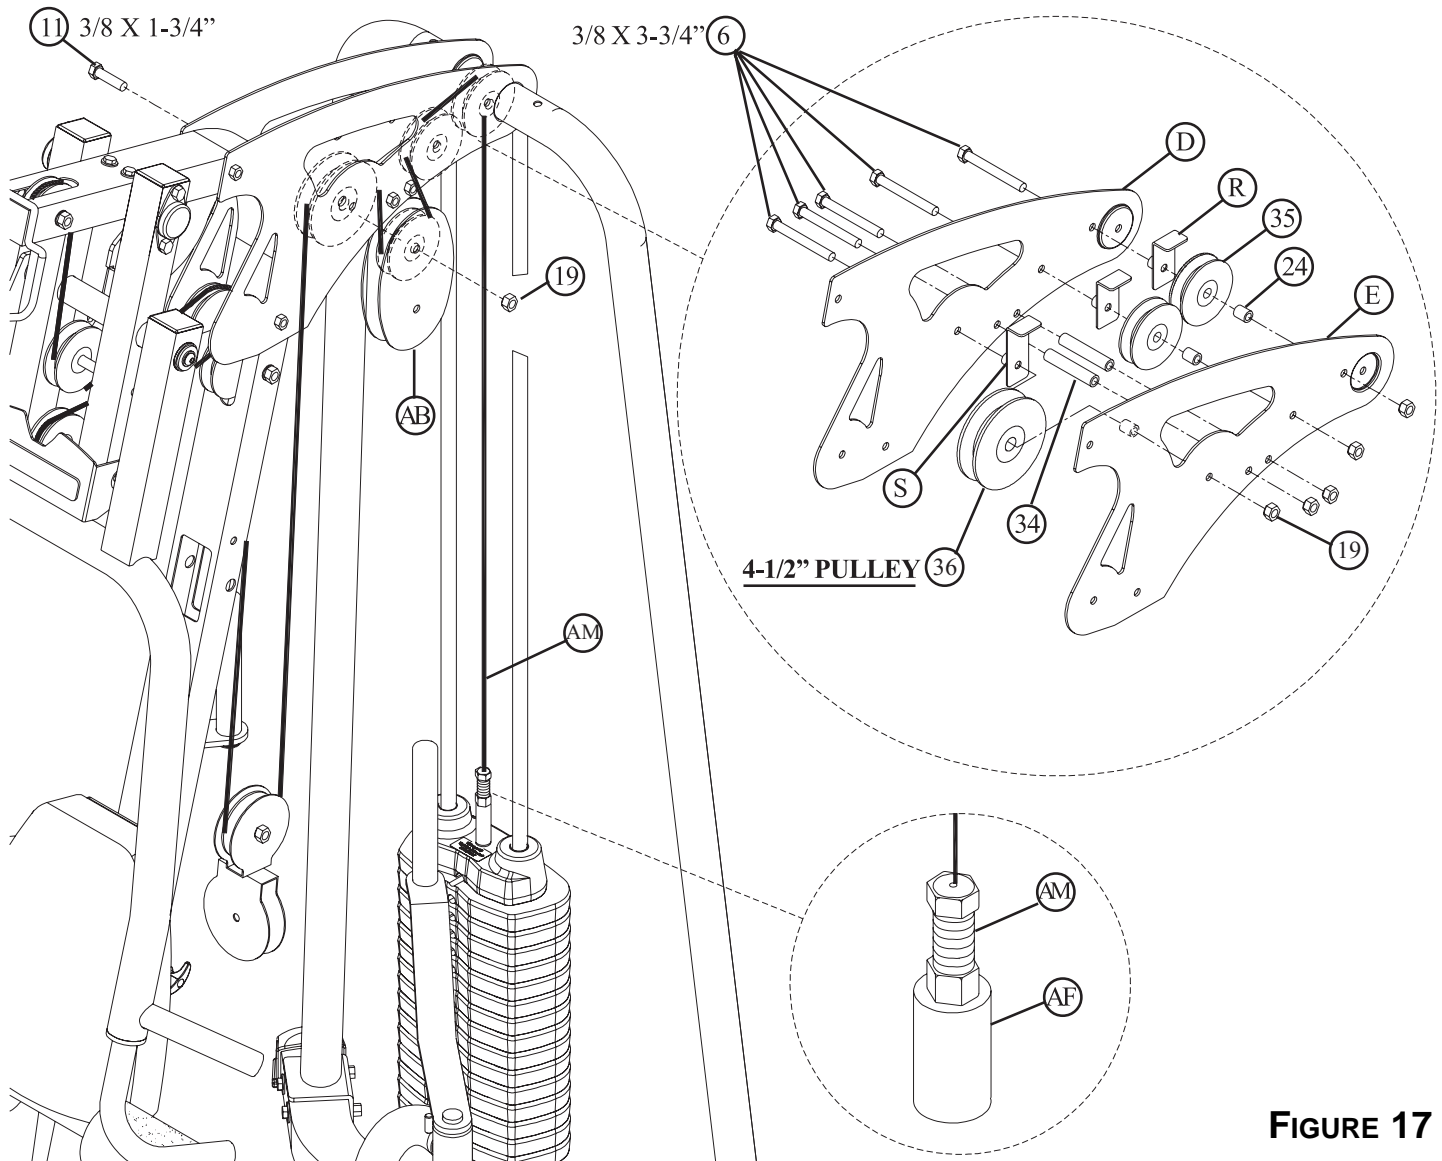

FIGURE 17
- Route the LAT CABLE (AM) around one **4-1/2" PULLEY** (36) and assemble the PULLEY to the LEFT (D) and RIGHT (E) BOOM PLATES using one 3/8 X 3-3/4" BOLT (6), one LONG "L" CABLE BRACE (S), one 1" SPACER (24) and one 3/8" SILVER LOCK NUT (19). See FIGURE 17.
- **SECURELY** assemble two PLASTIC SLEEVES (34) to the LEFT (D) and RIGHT (E) BOOM PLATES using two 3/8 X 3-3/4" BOLTS (6) and two 3/8" SILVER LOCK NUTS (19) as shown in FIGURE 17.
- Route the LAT CABLE (AM) around one 3-1/2" PULLEY (35) and assemble two DOUBLE FLOATING PULLEY PLATES (AB) to the 3-1/2" PULLEY (35) using one 3/8 X 1-3/4" BOLT (11) and one 3/8" SILVER LOCK NUT (19). See FIGURE 17. (**Note: Make sure the cable runs in the grooves of the pulleys.**)
- Route the LAT CABLE (AM) over two 3-1/2" PULLEYS (35) and assemble the PULLEYS to the LEFT (D) and RIGHT (E) BOOM PLATES using two 3/8 X 3-3/4" BOLTS (6), two SHORT "L" CABLE BRACES (R), two 1" SPACERS (24) and two 3/8" SILVER LOCK NUTS (19). See FIGURE 17.
- Screw the threaded end of the LAT CABLE (AM) into the end of the HEAD PLATE ASSEMBLY (AF). See FIGURE 17.